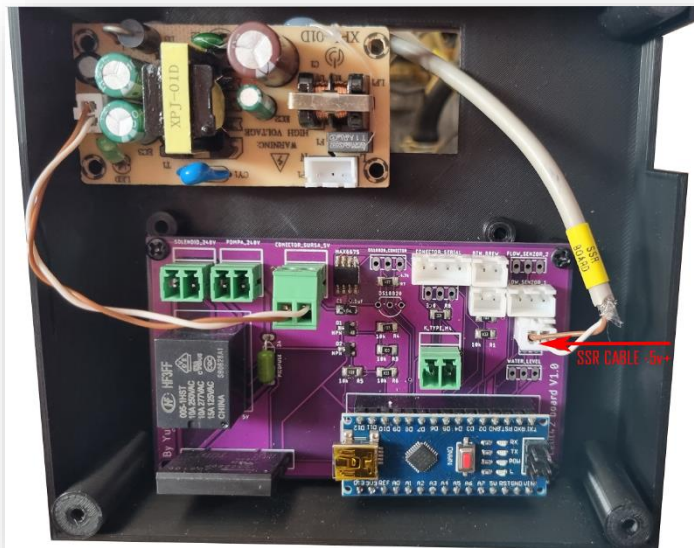

Fig. 5.5
- Connect the SSR BOARD end of the cable to the main board (fig. 5.5)